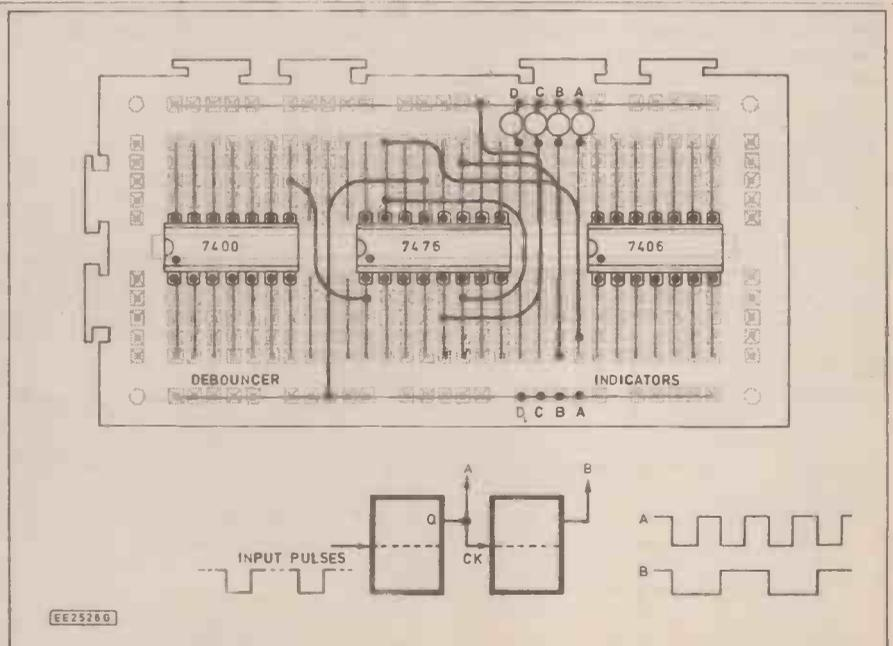

Fig. 6.2. Adding the second J-K.
**T** For now, yes. Now wire it up and send it some pulses as before from the de-bouncer (Fig. 6.2).